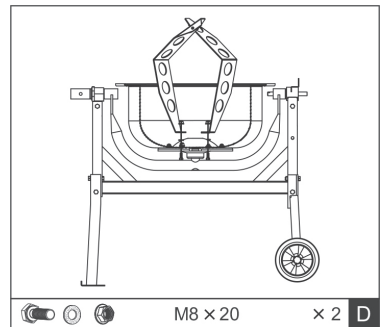

Fig.8
- Assemble the mixing blades. Place the mixing blades on the bottom of the drum and assemble them using two M8x16 screws and nuts. Use a leather washer between the bottom of the drum and the blades. Tighten the screws only slightly (D), Fig.8.